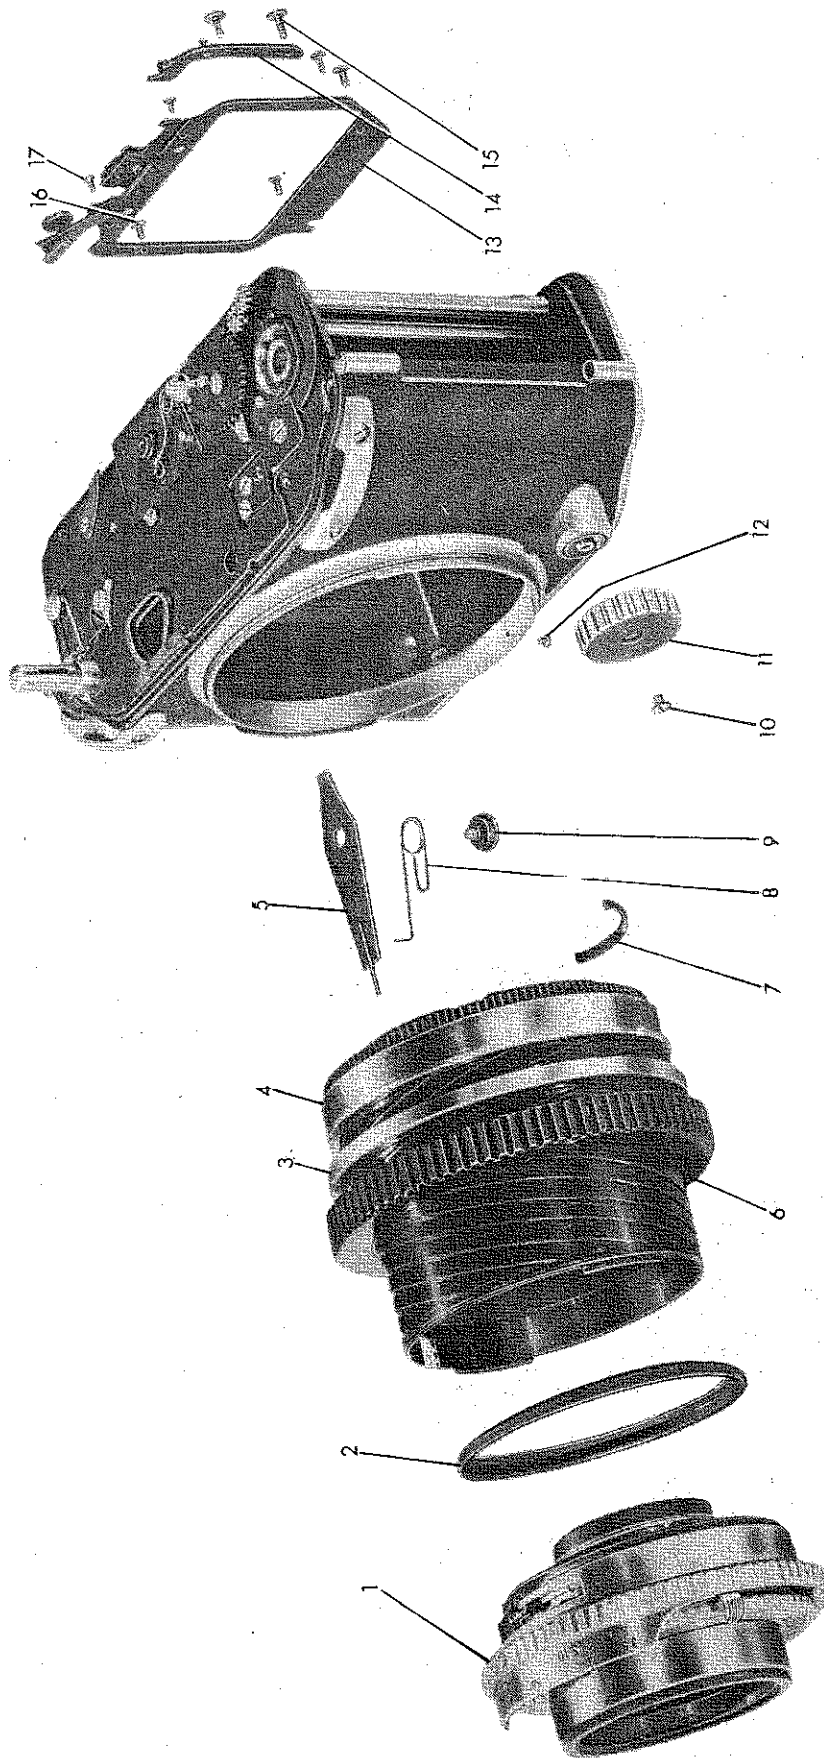
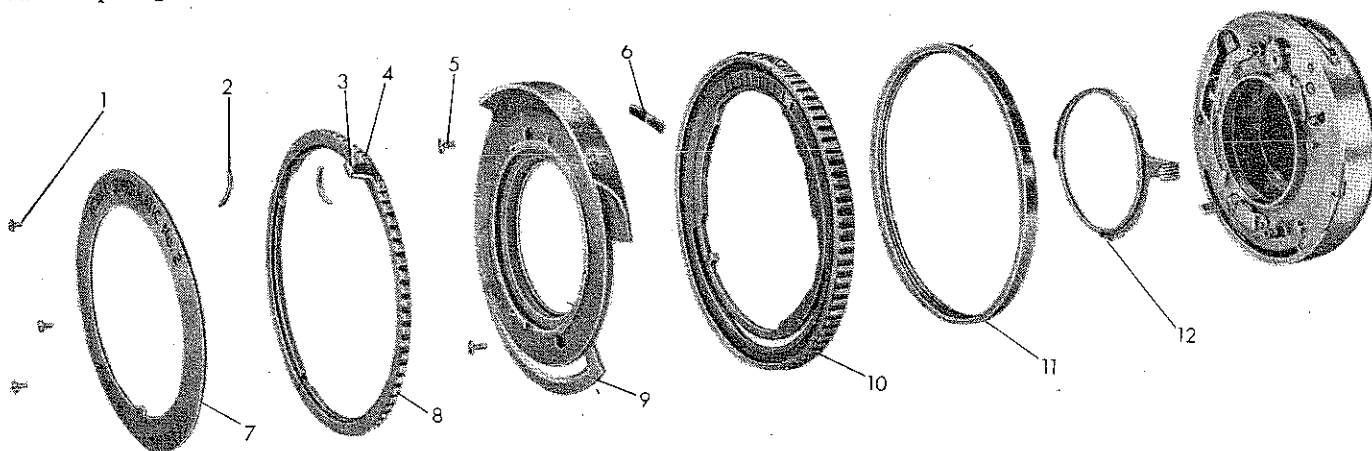

Figure 30—Shutter and Focusing Tube Assembly, Exploded from Camera Case
Figure 33—Parts on Front of Shutter, Exploded
The shutter complete (1, figure 30) need not be removed from the camera except when repairs to the shutter blades, diaphragm wings, or delayed action gears are to be made or when the focusing tube assembly (6, figure 30) is to be removed from a camera of type B or type C. Shutter repairs involving the disassembly described up to paragraph 2.n.(4), this section, can be made without removing the shutter from the camera.
(1) Using special tool No. 501-A, take the initial tension off the shutter retaining ring (11, figure 33) located directly behind the speed control ring with pointers assembled (10, figure 33). With a jeweler's screw driver, unscrew the shutter retaining ring until the shutter complete (1, figure 30) comes loose and can be lifted out of the focusing tube assembly (6, figure 30). The shutter retaining ring will remain on the shutter complete.
(2) Lift the shutter light guard (2, figure 30) out of the focusing tube assembly.
(1) With a camera of type A, remove the two focusing tube guide plate to tube screws (1, figure 21) which extend through the focusing tube guide plate (2, figure 21). On cameras of types B and C, remove the two focusing tube guide to focusing tube screws (17, figure 30). These are the two small flathead screws underneath the shutter operating lever slide on the focusing tube guide assembly (14, figure 21).
(3) Remove the focusing knob screw (10, figure 30) and the focusing knob (11, figure 30). Check for a washer under the focusing knob. If there is one, be sure to replace it on reassembly.
(4) Remove the focusing tube retaining ring lock screw (12, figure 30).
(5) Use special tool No. 501-B to loosen the focusing tube insert retaining ring (3, figure 30), and unscrew the insert retaining ring. Then, grasping the case in one hand, work the focusing tube assembly (6, figure 30) out of the case with the other hand, using no more pressure on the case or focusing tube assembly than is necessary.
(1) PARTS ON FRONT OF SHUTTER. (See figure 33.)